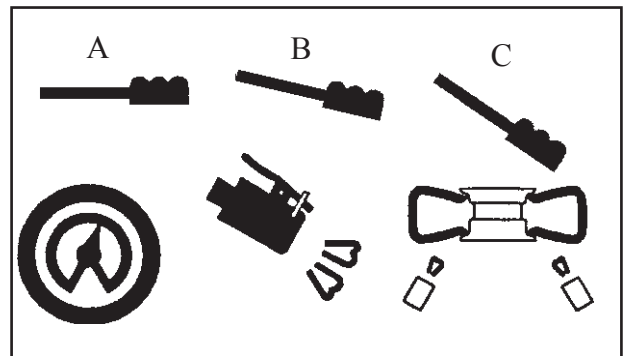

Fig 14
• Press the pedal down to intermediate position (B - Fig. 14).
• If the bead of tyre is not well seated, due to a strong bead, lift tyre manually until the upper bead seals against the rim, then press pedal all the way down (C - Fig. 14). A strong jet of air will be released through the nozzles in the slides and this will help the bead seal.
• Release the tyre; set the pedal in the intermediate position (B - Fig. 14) and continue to inflate the tyre with short jets of air and constantly checking the pressure between air jets until the required pressure has been reached.